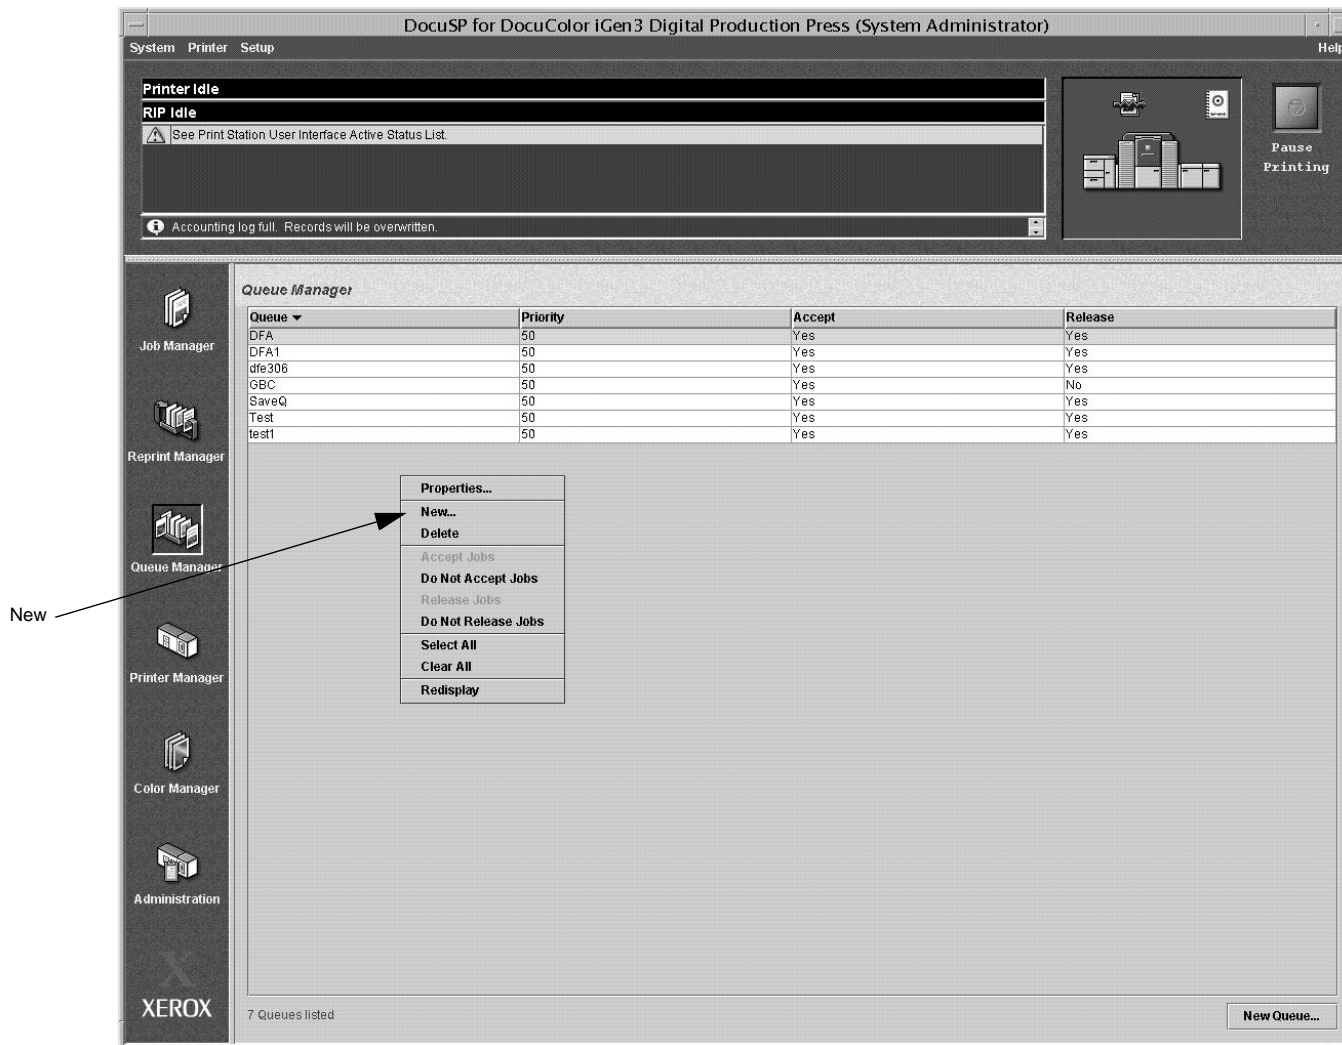

Figure 6-44 The Queue Manager
The **Queue Manager** Screen will be displayed, as shown in Figure 6-44.
- Right click in a blank part of the **Queue Manager** Screen and select **New** from the drop down list, as shown in Figure 6-44.